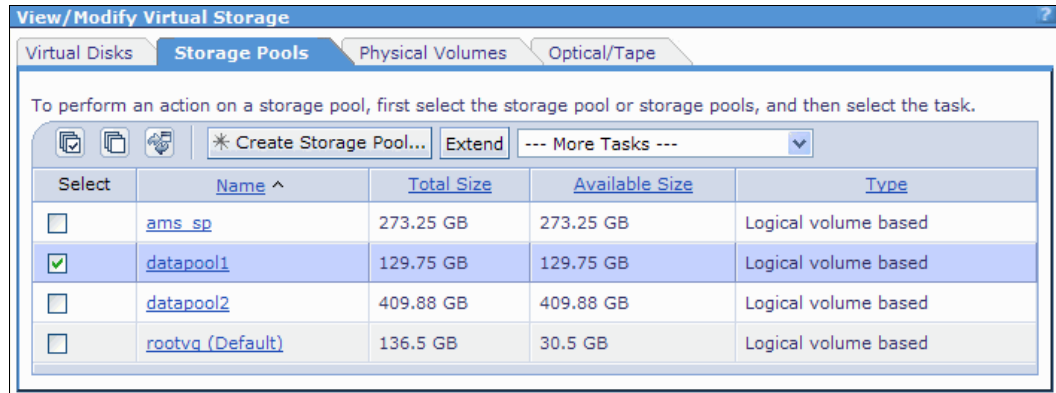

Figure 4-7 View/Modify Virtual Storage: Storage Pools list
3. Select the storage pool that you want as the default, as shown in Figure 4-7.